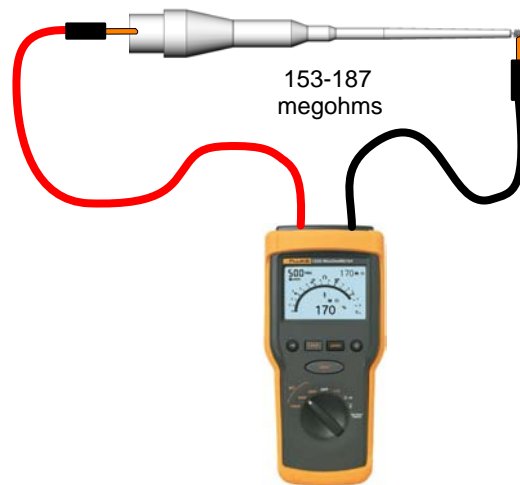

Figure 12 Resistor Resistance Test
2. See Figure 12. Connect the megohm meter probes to the resistor spring and electrode spring.